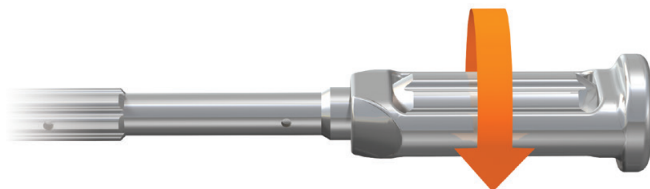

Figure 20
- Remove the inserter by turning the knob counterclockwise until the implant is released (Figure 20).